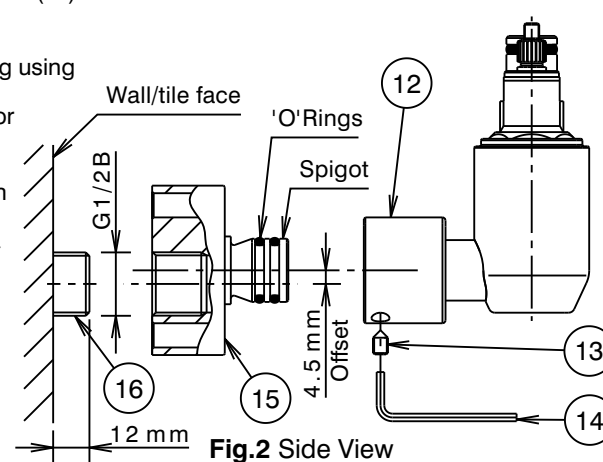

Fig.2 Side View
- 1) Check that threaded nipples (16) are the correct length, as shown (Fig.2). Cut to length if required ensuring end face is square. Apply thread sealant or tape to the thread. **Important:** Care must be taken that thread tape cannot become dislodged and block the flow regulated device, causing a reduction in water flow.